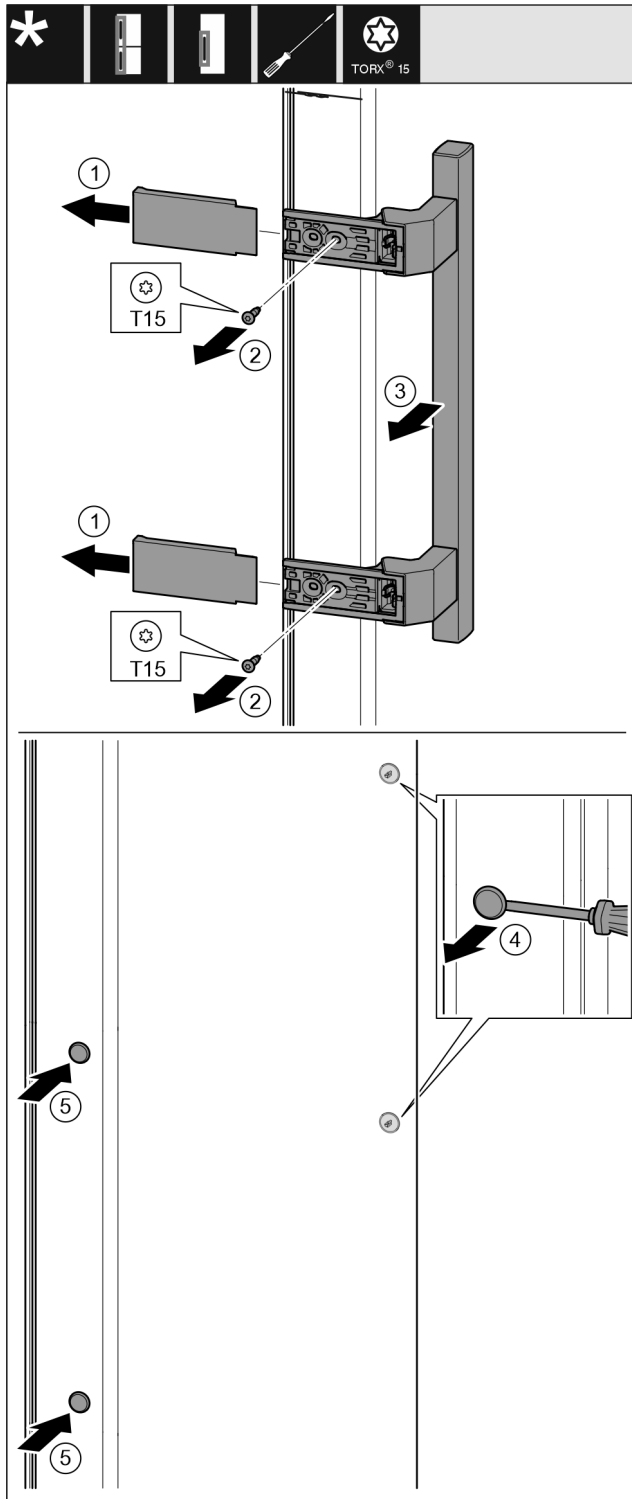

Fig. 14
- Pull off the cover. Fig. 14 (1)
- Remove the screws with a T15 screwdriver. Fig. 14 (2)
- Take off the handle. Fig. 14 (3)
- Carefully lift up the side plugs with a slotted screwdriver and pull them out. Fig. 14 (4)
- Insert the plugs again on the other side. Fig. 14 (5)